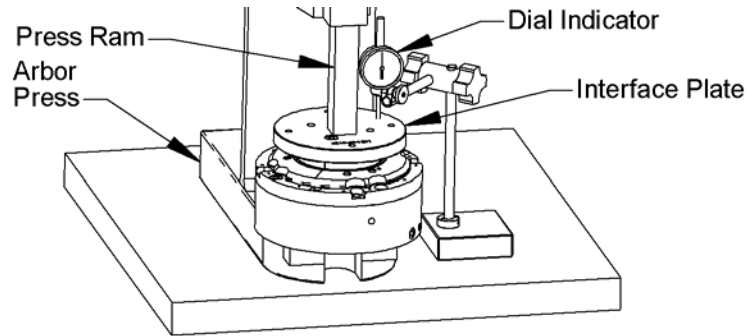

Figure 3.13—Checking Switch Height Adjustment
4. Center the Protector™ under the Press Ram of an Arbor Press (see Figure 3.13).